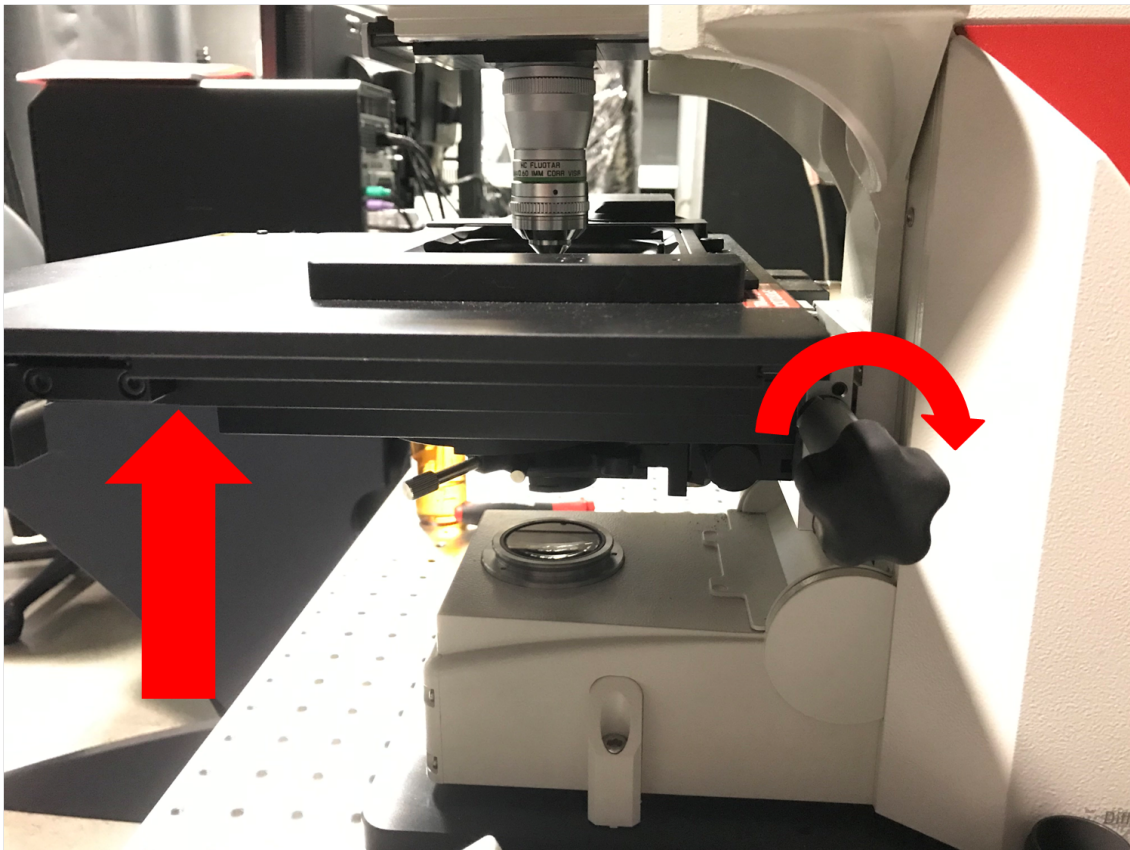

Figure 9
8. At this point the stage should be raised to the upper position. Make sure the stage is in the upright position before opening the LAS X software. The stage is properly latched in the upright position when and audible 'click' is heard. See Figure: 9